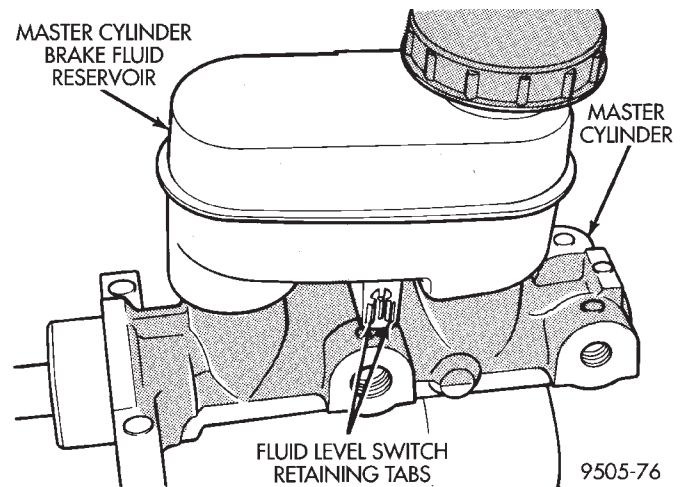

Fig. 51 Brake Fluid Level Switch Retaining Tabs
- (2) Compress the retaining tabs (Fig. 51) on the end of the brake fluid level sensor.